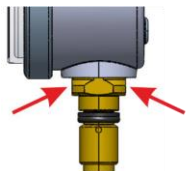

Fig. 67: Key surface
3. ➔ As soon as the contact pressure gauge is under pressure and is thus more difficult to turn, turn the contact pressure gauge on the key surface SW14 (Fig. 67) with a suitable tool until the stop in the connection.